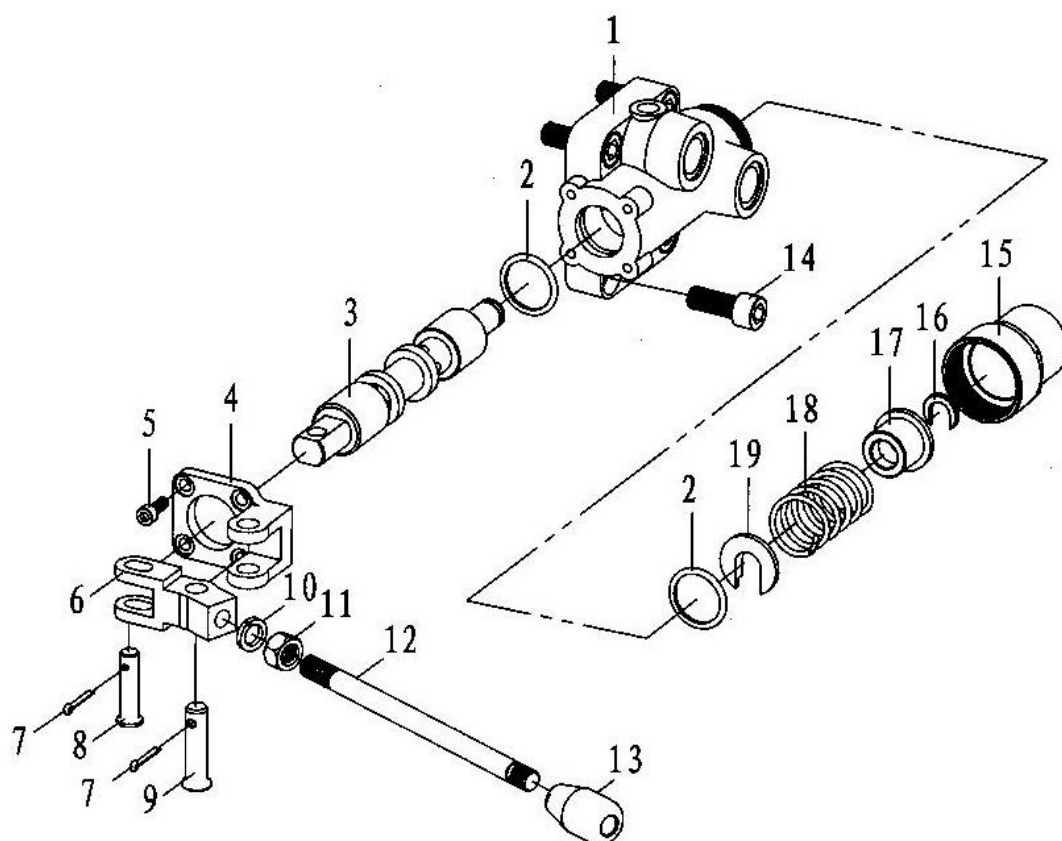

Fig.8-12
8.12 Gear shifting and parts list(Fig.8-12,Table 8-12)